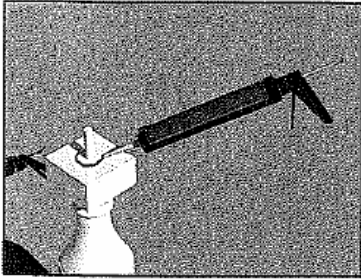

Fig. 7A
- B) Working with one section at a time, apply a  $\frac{1}{4}$ " bead of urethane base adhesive on both ends of each BALUSTER (Fig. 7A).